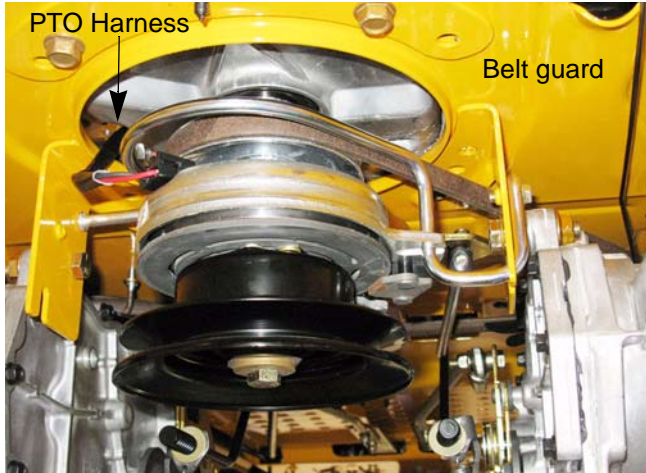

Figure 4.19
8. Remove the rear belt guard using a 3/8" wrench. See Figure 4.19.